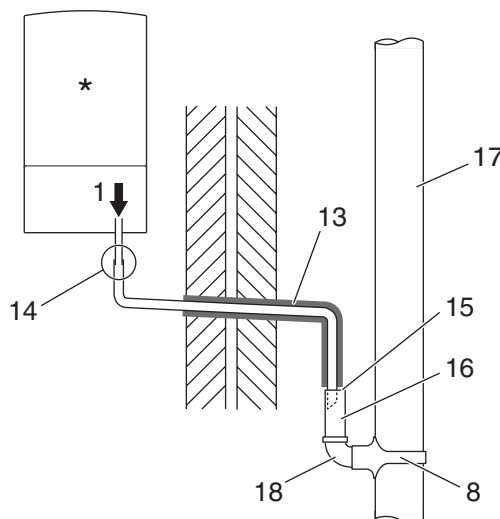

Fig. 10 Disposal into a rainwater down pipe
- Refer to figure 10 when a rain water down pipe is used to dispose of condensate.